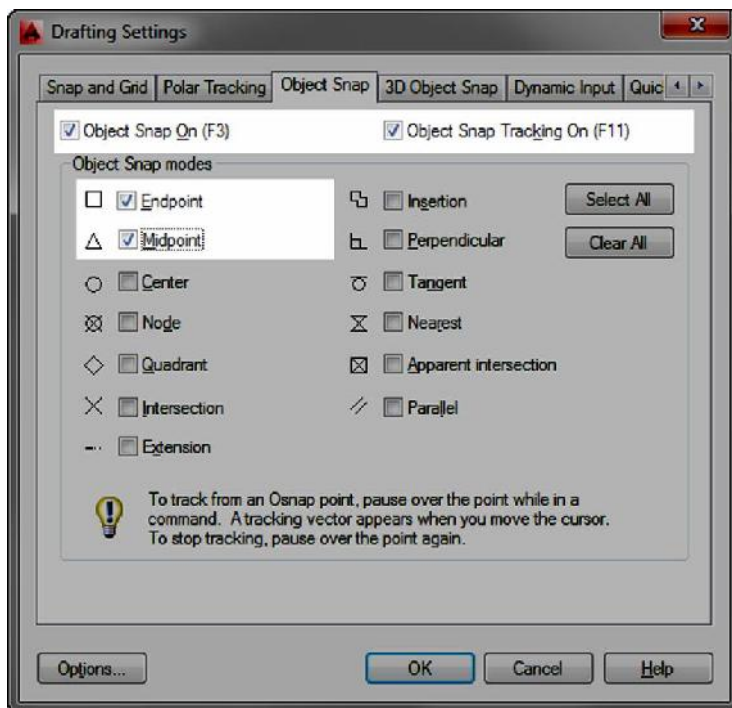

FIGURE 5.32: Enabling the Endpoint and Midpoint object snaps from the Drafting Settings dialog box
2. Verify that Polar Tracking and Object Snap are still enabled, and then turn on the Endpoint and Midpoint object snaps from the Drafting Settings dialog box, as shown in Figure 5.32.